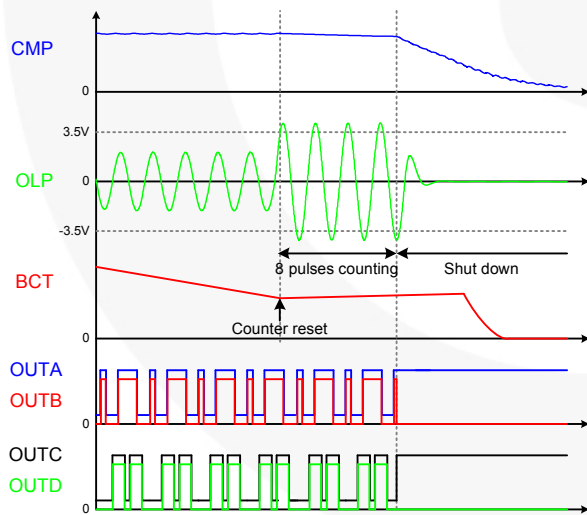

Figure 55. High-FB Protection
**High-FB Protection:** If the minimum of the rectified OLP voltages(  $V_{OLP}^{max}$  ) is more than 3.5V, the counter starts counting eight rectified OLP pulses in normal mode, then the IC enters shutdown, as shown in Figure 55. This counter is reset by detecting the positive edge of BCT. This protection is disabled in striking mode to ignite lamps reliably.